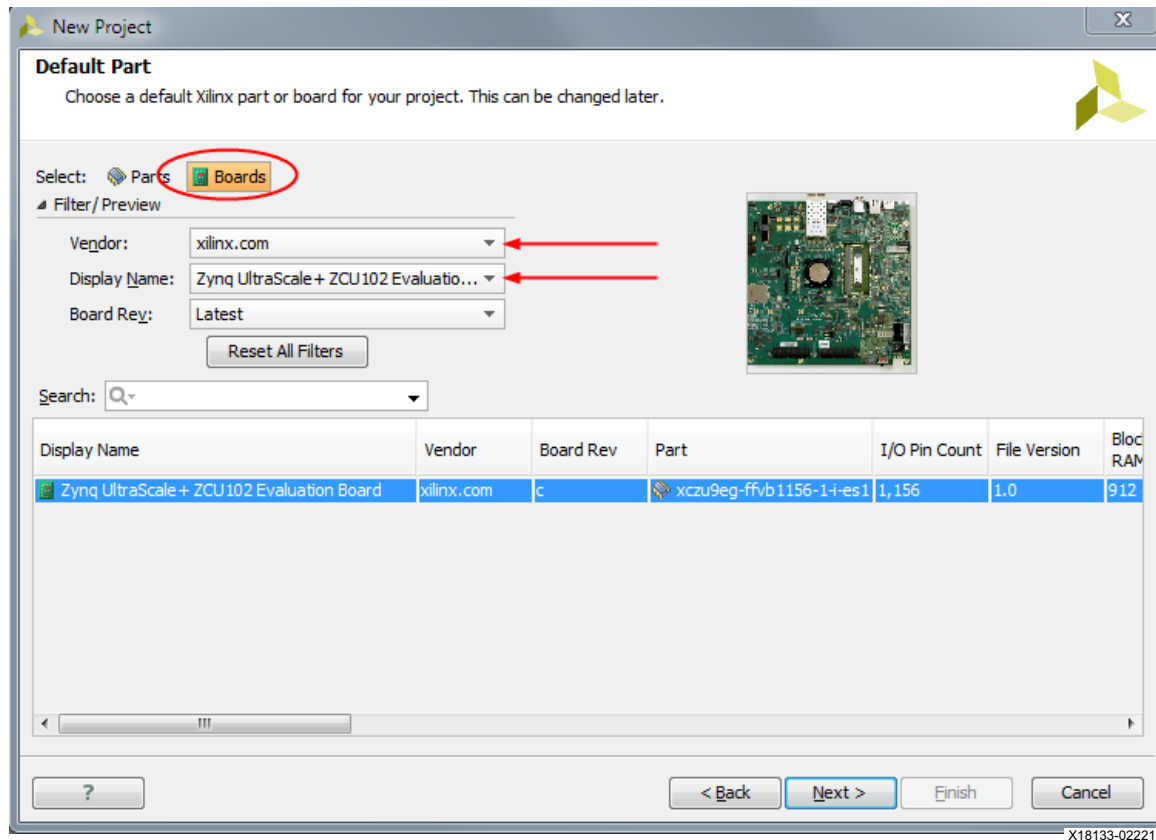

Figure 4: Design 1 - Board Selection
- d. Select **Boards**, set **Xilinx** as the vendor, and select the **Zynq UltraScale+ ZCU102 Evaluation Board**. See Figure 4.